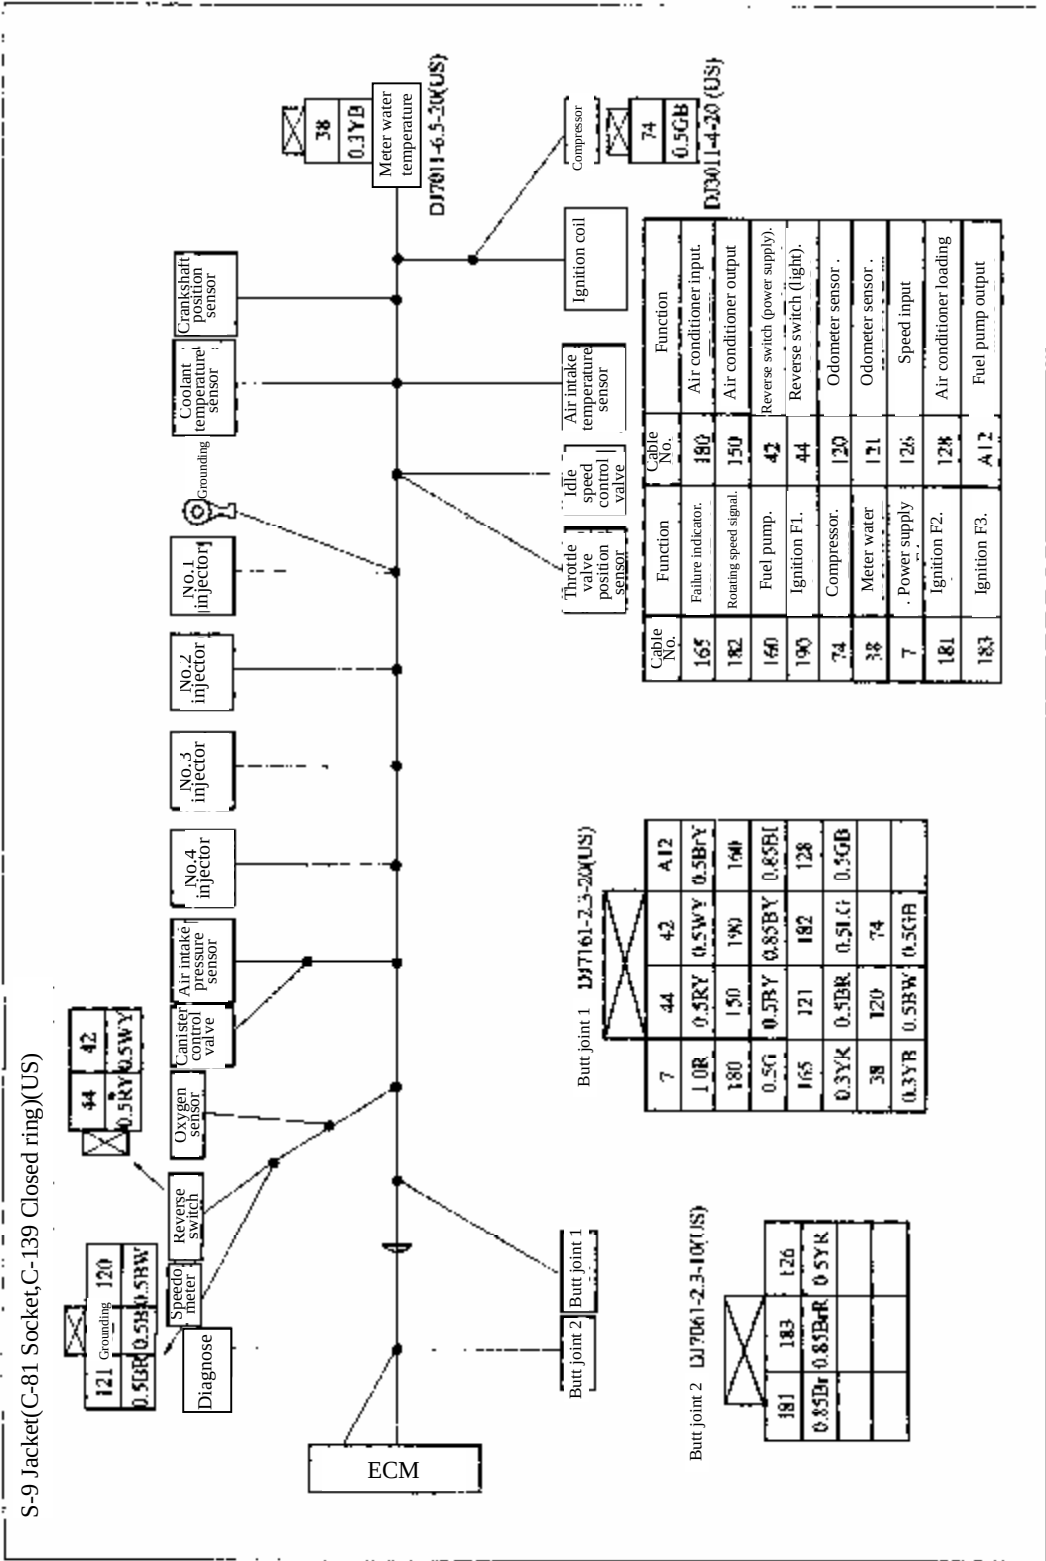

Figure 4-25 MPI Gasoline Engine System Harness Diagram for BJ491EQ1 Pick-Up and SUV
4.2.16.2 Figure 4-25 shows multi point electronic injection gasoline engine system harness diagram for BJ491EQ1 pick-up and SUV.